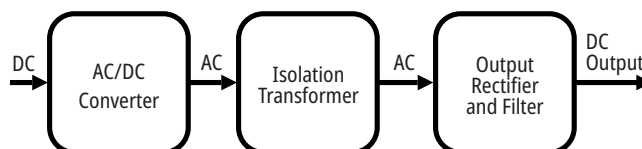

Figure 1: Isolated DC/DC converter block diagram
The core of any isolated DC/DC converter is its transformer. Since transformers only operate with alternating current (AC), every isolated DC/DC converter fundamentally performs a DC-to-AC and then an AC-to-DC conversion process (Figure 1).